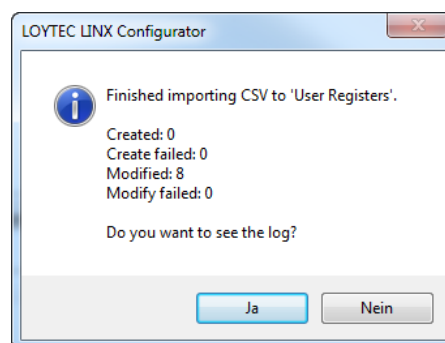

Figure 63: Report on an imported data point CSV.
3. Choose a CSV file to be imported. The Configurator opens that file and applies the properties to the existing data points. When finished a report is shown as depicted in Figure 63.